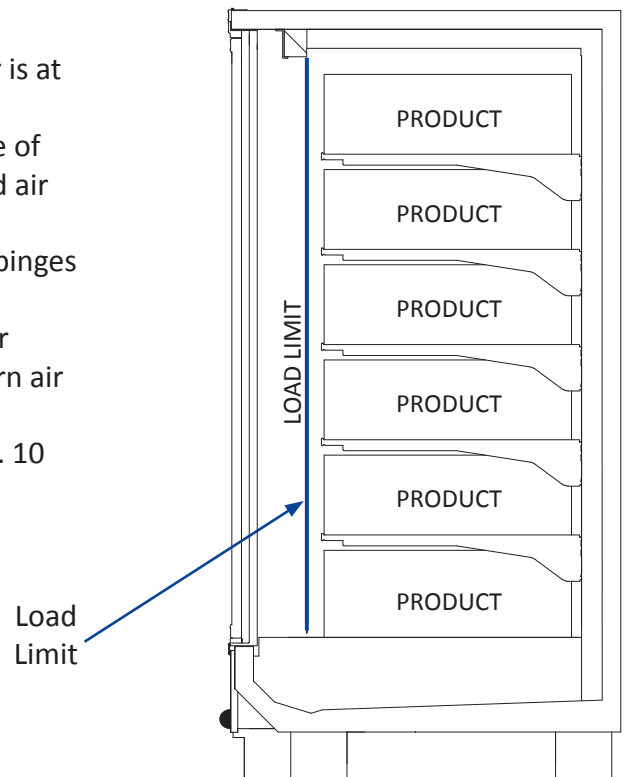

Fig. 10 Load Limit
- Please keep products within the load limit line shown Fig. 10